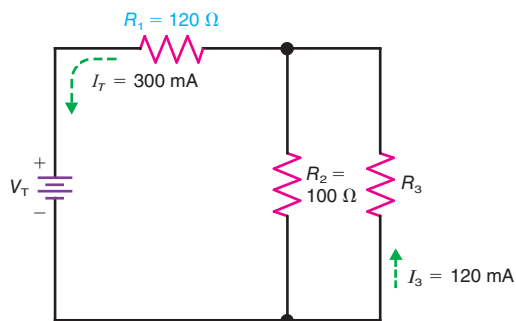

Figure 7-28
7.15 In Fig. 7-28 solve for V_1 , V_2 , V_3 , I_2 , R_3 , R_T , and V_T .